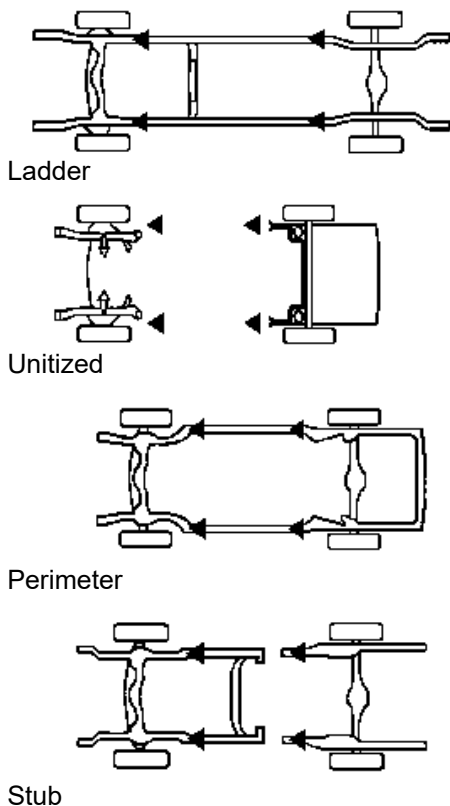

Fig. 7 Service Garage Lift Points
- b. **230V (non-standard wiring)** Connect Power Unit to suitable electrical source as shown in **Fig 7**.
NOTE: Some vehicles may have the manufacturer's recommended lift points identified by triangle shape marks located on its undercarriage. Also, there may be a label located on the right front door lock face showing specific vehicle lift points. If the vehicle's lift points are not identified, refer to the service garage lift points shown in **Fig. 7**. **ALWAYS** follow the operating instructions supplied with the lift.